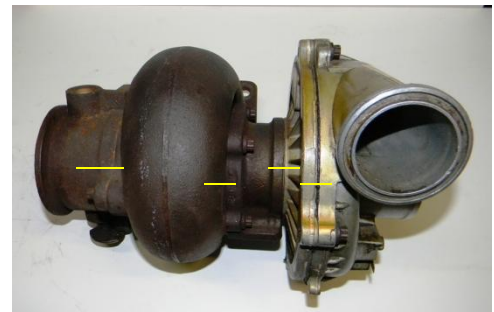

Fig 1
- 2) Mark the orientation of the turbo for reassembly. A line marked on each component will aid in making sure all the segments are put back together properly. (Fig 1)